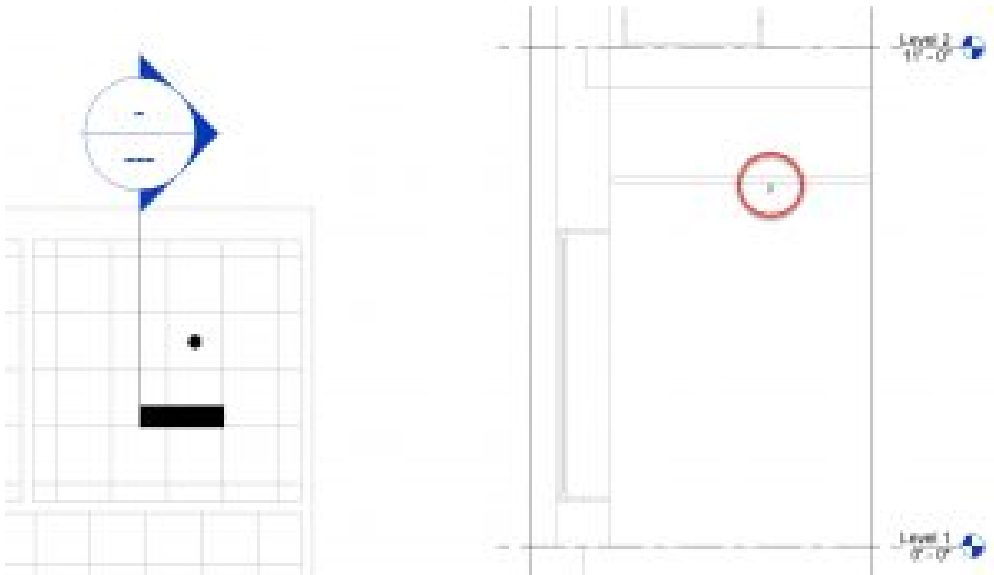

Figure 15.4 First sprinkler placed (left) and section cut view (right)
9. Place sprinklers in 6 more of the rooms as shown in Figure 15.4. The 8th room will become the Fire Riser room.